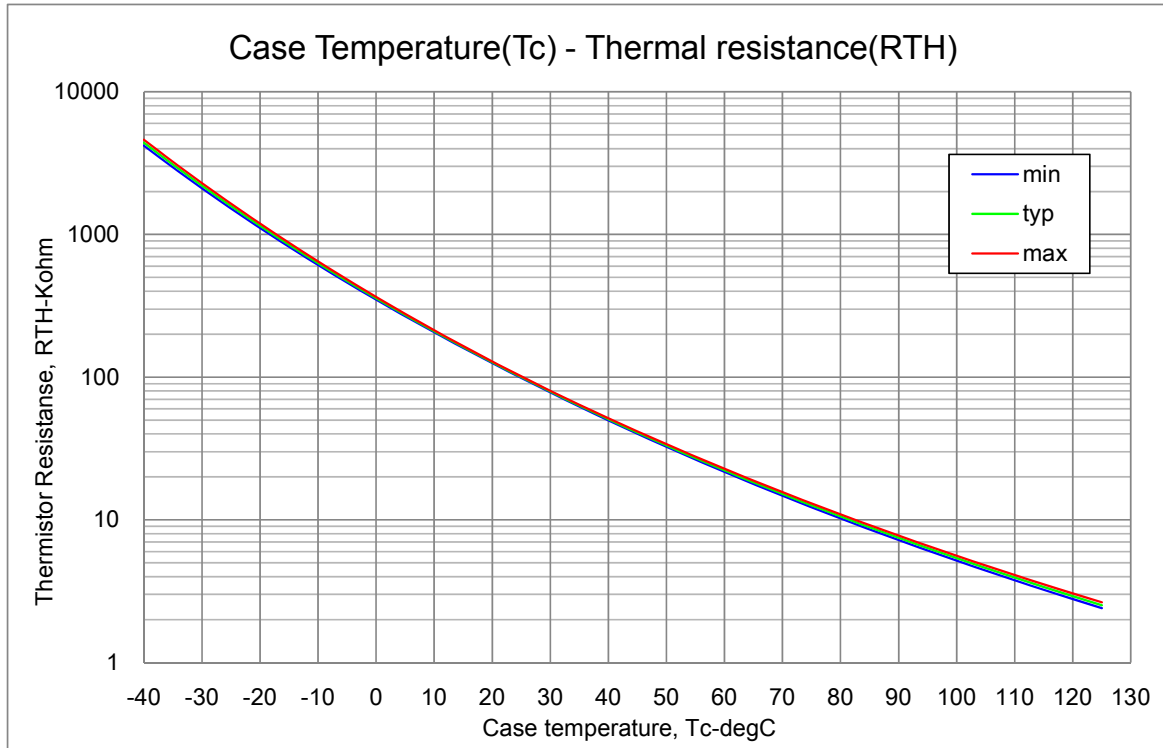

Fig.10 Variation of thermistor resistance with temperature
5. Inside the IPM, a thermistor used as the temperature monitor for internal substrate is connected between VSS terminal and VTH terminal, therefore, an external pull up resistor connected between the TH terminal and an external power supply should be used. The temperature monitor example application is as follows, please refer the Fig.10 and below.